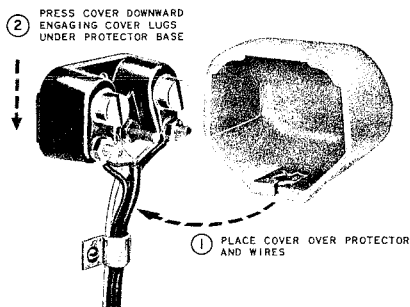

Fig. 12 — Installation of 123A1A Protector with 150A Cover
4.07 When using a 150A Cover, it is recommended that all wires be brought together under a common clamp as a last attachment located approximately 2 inches below the protector (Fig. 12). Because of the size of the snap-on cover, it is also recommended that the finished lengths of insulated conductors from the outer jacket be somewhat less than that which is normally allowed.
4.09 Installation of the 123 Type Protector and 150A Cover is shown in Fig. 12.